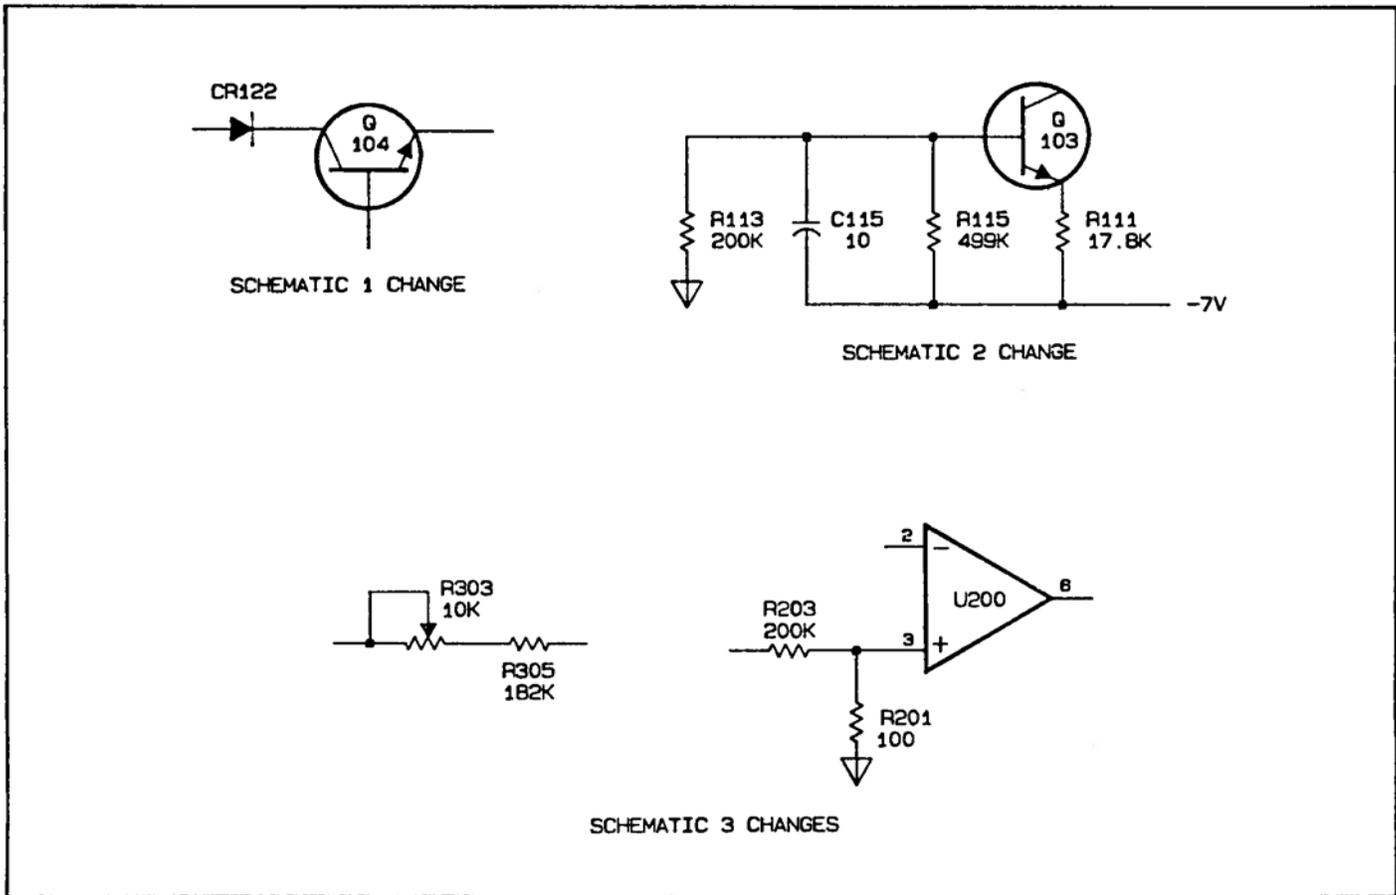

Figure 7-1. Schematics 1, 2, and 3 Changes (Change #2)
7-10. Schematic 1 Changes. Delete R159 from the collector of Q104 and connect the collector to CR122, as shown in Figure 7-1.
c. Change the current source (Q103) circuitry in the input amplifier as shown in Figure 7-1.
a. Delete RT300 and R307, connected to potentiometer R303, and connect R303 to R305 (see Figure 7-1). Also change the value of R305 to 182k.
b. Delete R207 from the + input of U200, as shown in Figure 7-1.